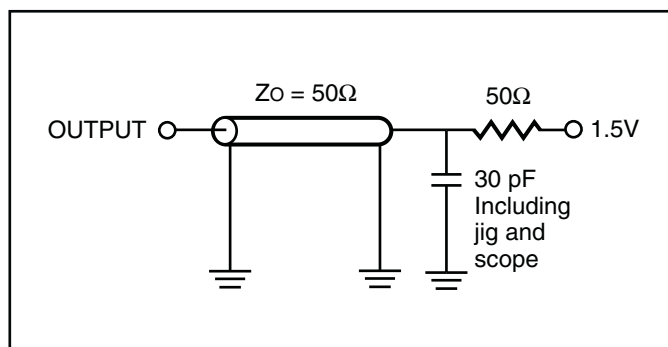

Figure 1.
Output Load	See Figures 1 & 2
1. Test conditions assume signal transition times of 3 ns or less, timing reference levels of 1.5V, input pulse levels of 0V to 3.0V and output loading specified in Figure 1.